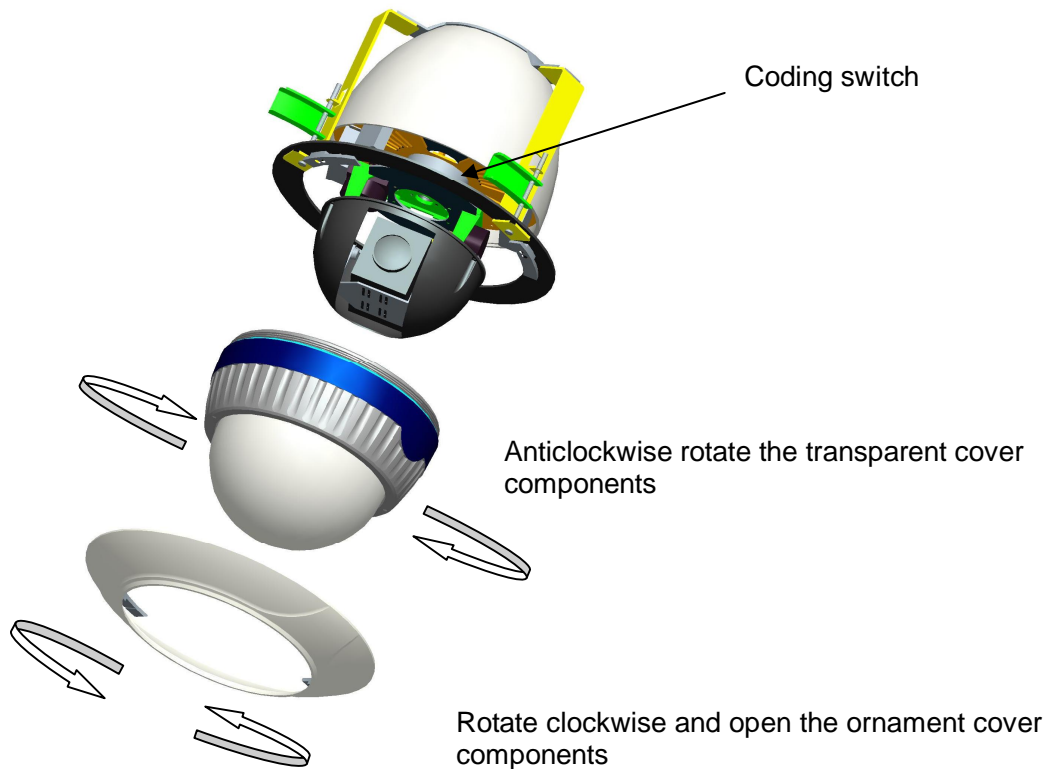

Figure 11
3. Rotate clockwise and open the ornament cover components; then **anticlockwise** rotate the transparent cover components, and remove them. ( As shown in figure 11 ) 。